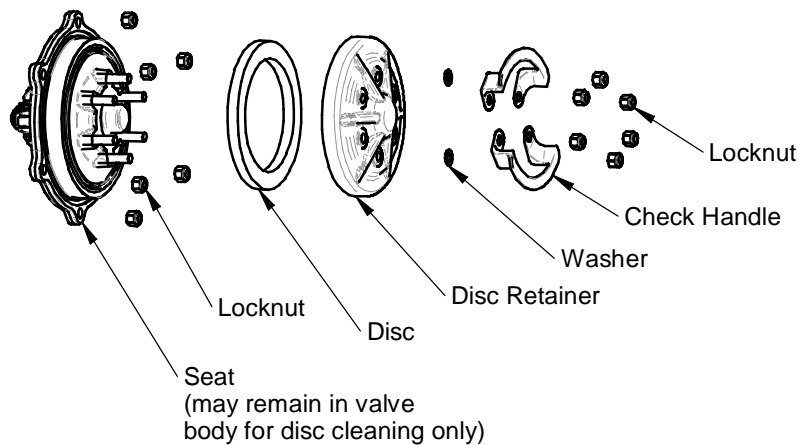

Figure 8
If only cleaning of either check is necessary, simply remove the six (6) nuts for 8" valves / eight (8) nuts for 10" & 12" valves on the black plastic disc retainer (See Figure 8). Remove the check handles and washers and lift the disc retainer and disc out of the body. Rinse the disc with clean water or replace if necessary. The disc may be flipped over for a temporary repair, but should be replaced if damaged. Replace the disc, disc retainer, washer, handle, and nuts. Do not over tighten locknuts.